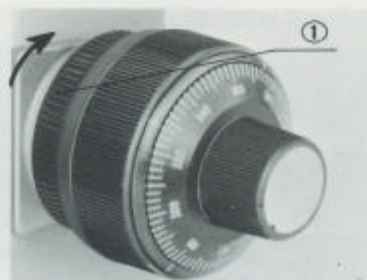

Fig. 2
A tension adjustment ring ① is provided next to the right hand coarse adjustment knob. With this device the tension of the coarse adjustment is freely adjustable for either heavy or light movement depending on operator preference. However, do not loosen the tension adjustment ring too much, because this may cause the stage to drop or the fine adjustment knobs to slip. The arrow mark indicates increase of the tension (Fig. 2).